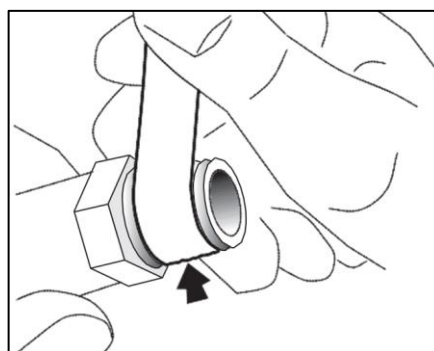

Figure 13a
10. Put Teflon™ thread sealing tape on the hydraulic fuse threads. The tape should be wound at least one thread above the bottom thread of the threads (Figure 13a).